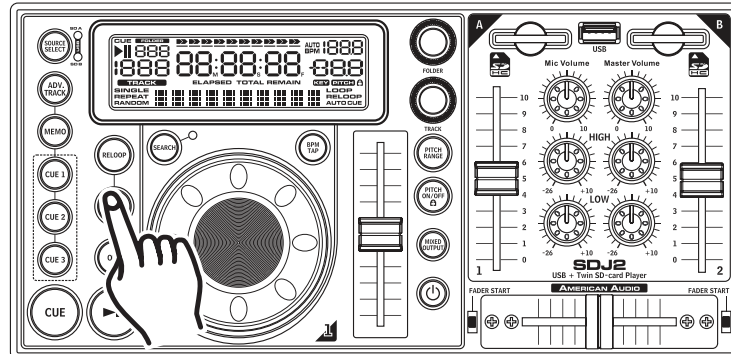

Figure 11
A cue point is the exact point playback will begin when the *PLAY/PAUSE Button (18)* is pressed. You may set your cue point anywhere on a track. There are two ways to set and create a CUE point as detailed in figures 11 and 12.
- 1) You may press the *IN BUTTON (25)* on the fly (while the track is playing). This will set a CUE Point without music interruption. Pressing the *CUE BUTTON (19)* will now return you to the same point that you pressed the *CUE BUTTON (19)*.